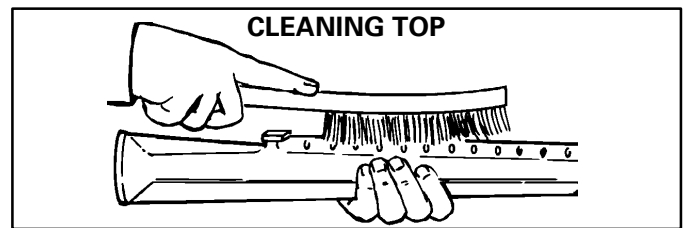

FIGURE 19
- 15 – Clean top of burner ports with a wire brush. See figure 19.